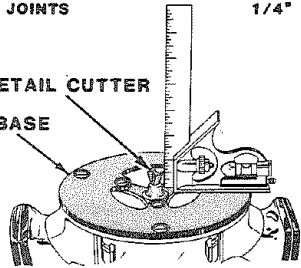

Fig. 10
2. Adjust the base on your router until the cutter extends 17/32 inch beyond the router subbase for 1/2" joints. Adjust 7/16 inch beyond the router subbase for 1/4" joints. See Figure 10.
3. Adjust the base on your router until the cutter extends 17/32 inch below the router subbase for 1/2" joints. Adjust 7/16 inch below the router subbase for 1/4" joints. See *Figure 10*.